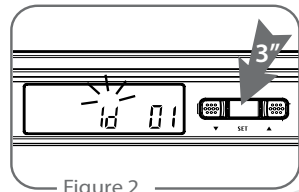

Figure 2
- (1) Press “Set” button ❹ for 3 seconds, LCD Panel will start flashing.
- (2) Press “Set” twice to enter “ID Code” setting window. (Figure 2)
- (3) Press “▲Up” ❷ or “▼Down” ❸” button to select a distinct ID code from “id 0” to “id 99”
- (4) After setting, press “Set” again to save the settings.